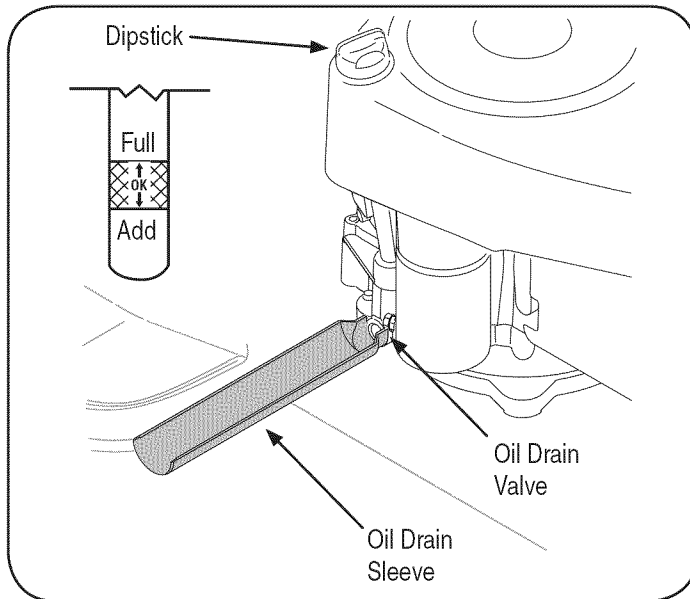

Figure 11
3. Remove the dipstick and check the oil level. It should be at the Full mark on the dipstick. See Figure 11.
2. Remove the oil fill cap/dipstick from the oil fill tube. See Figure 11.